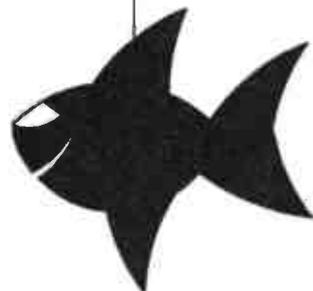

Fig. 2
thick balsa wood and some black cotton. Draw out the two fairly large fish shapes (A) and (B) shown in Fig. 1, on the cardboard and cut them out, using sharp scissors. Suspend these at different heights, on lengths of cotton, from each end of a one foot length of balsa strip. The cotton can be glued into place, or threaded through the cardboard and balsa, using a needle and the cotton lengths knotted where required (Fig. 2).